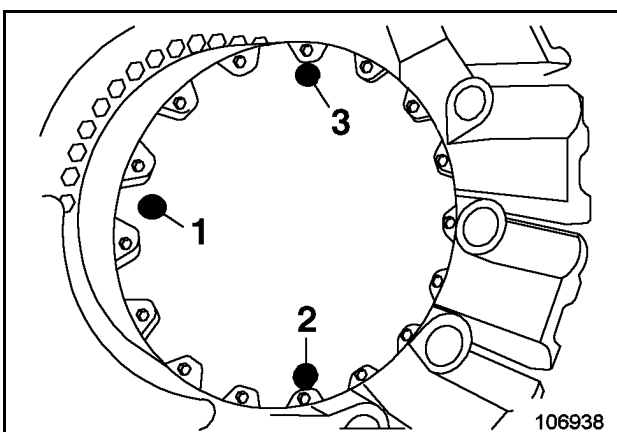

Fig. 3-132:
- Move the excavator into such a position that the screw plugs (1, 2 and 3, Fig. 3-132: are in the displayed position.
- Unscrew checking screw (1). The oil level should reach up to the lower edge of the opening. Top up with oil, if required. (Oil grade see "LUBRICANTS" section).
- Screw checking plug (1) back in place.